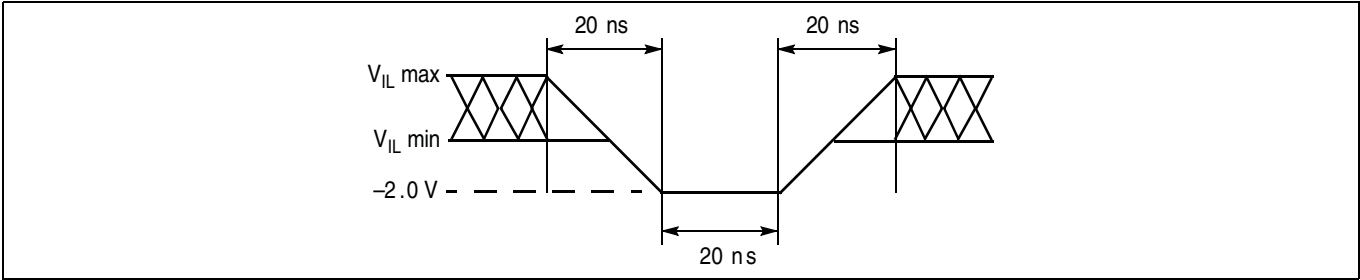
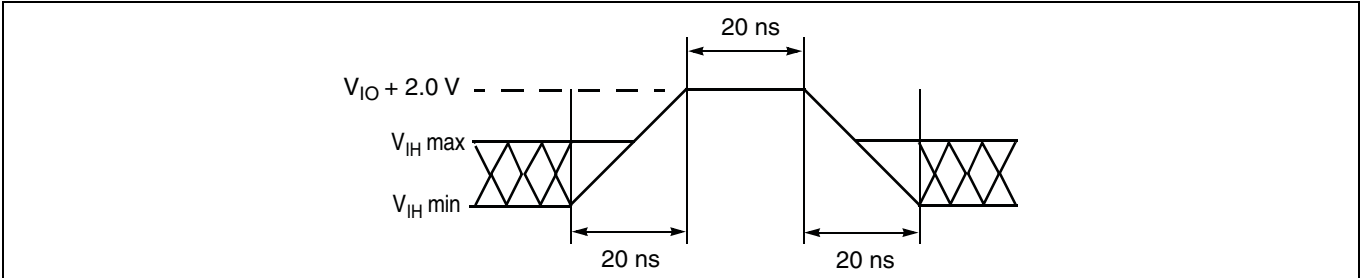

Figure 11 Maximum negative overshoot waveform
Figure 12 Maximum positive overshoot waveform
73. Minimum DC voltage on input or I/O pins is –0.5 V. During voltage transitions, input or I/O pins may undershoot V_{SS} to –2.0 V for periods of up to 20 ns. See Figure 11. Maximum DC voltage on input or I/O pins is $V_{CC} + 0.5$ V. During voltage transitions, input or I/O pins may overshoot to $V_{CC} + 2.0$ V for periods up to 20 ns. See Figure 12.